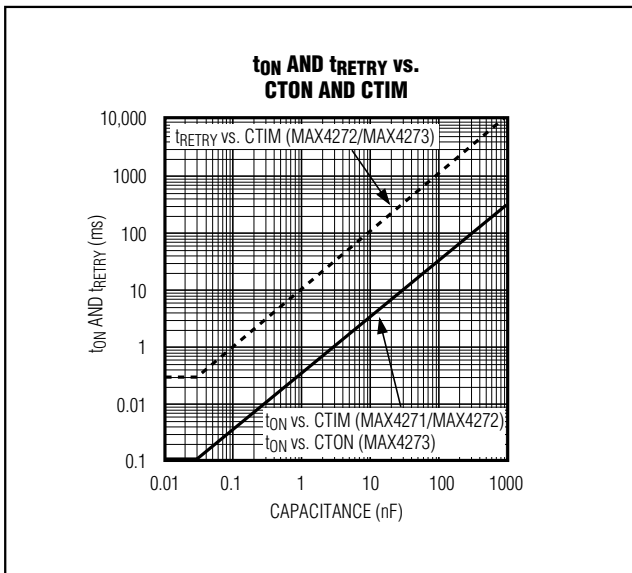
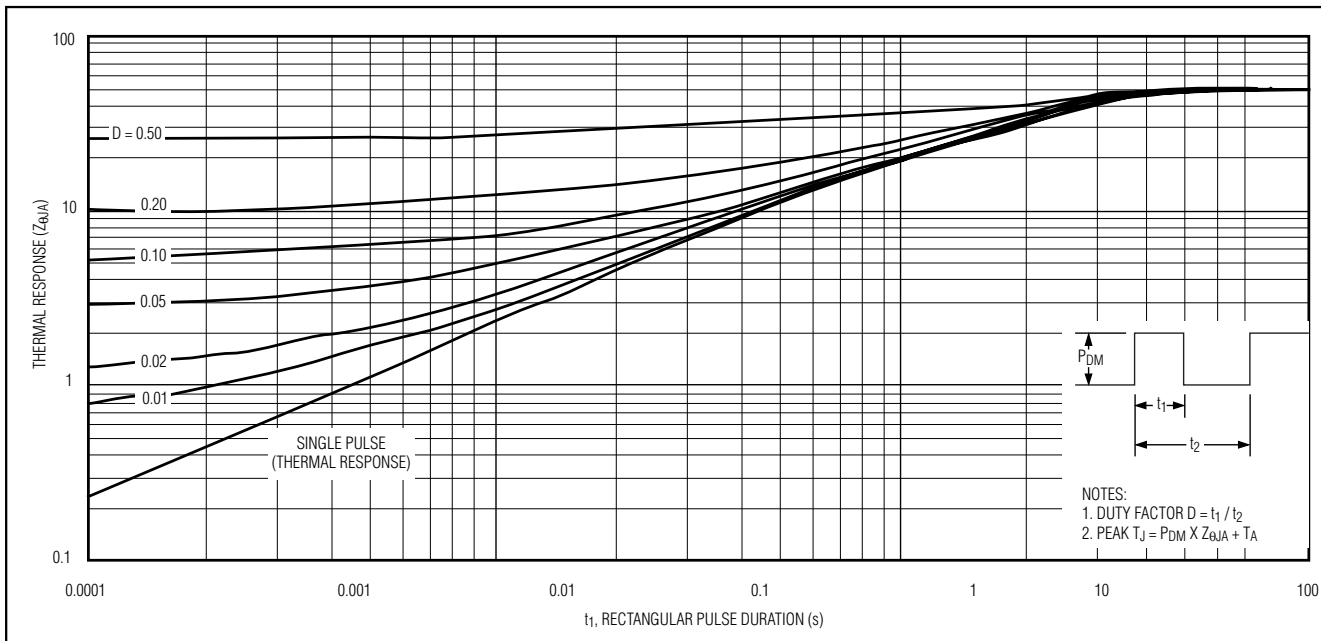

Figure 8. Startup and Retry Timeout
Figure 17. Example Curves (from IRF7413A) for Maximum Effective Transient Thermal Impedance, Junction to Ambient
CTON determines the maximum time allowed to complete turn-on for the MAX4273. The default values for turn-on time (tON) and tRETRY are chosen by leaving these pins floating; they are 10µs and 320µs, respectively. These are also the minimum values (not controlled and dependent on stray capacitance). Longer timings are determined by the size of the capacitor according to Figure 8, and can be determined in Table 5, which lists the startup and retry timing parameters.
MOSFET manufacturers typically include curves for the transient thermal resistance, $Z_{\theta JA}$, of the package (Figure 17). Find the thermal impedance of the MOSFET by using t_{START} as the pulse duration and by choosing the single pulse curve for latched mode parts or by choosing the duty cycle = 0.03 curve for the MAX4272 (the duty cycle is fixed at 32:1). If the $Z_{\theta JA}$ required is less than that of the package, reduce t_{START} , reduce $I_{FAST, SET}$, use a heatsink on the MOSFET, or choose one with better thermal characteristics.
Use Figure 8 to determine CTIM given t_{RETRY} .
- From Figure 8, $C_{TON} = 3000pF$.
Using $t_{\text{START}} = 1\text{ms}$ as the pulse duration, use Figure 17 to select a duty cycle. The duty cycle should be about 0.01 or less. This implies $t_{\text{RETRY}} = t_{\text{START}} / 0.01 = 100\text{ms}$. From Figure 8, $C_{\text{TIM}} = 10\text{nF}$.